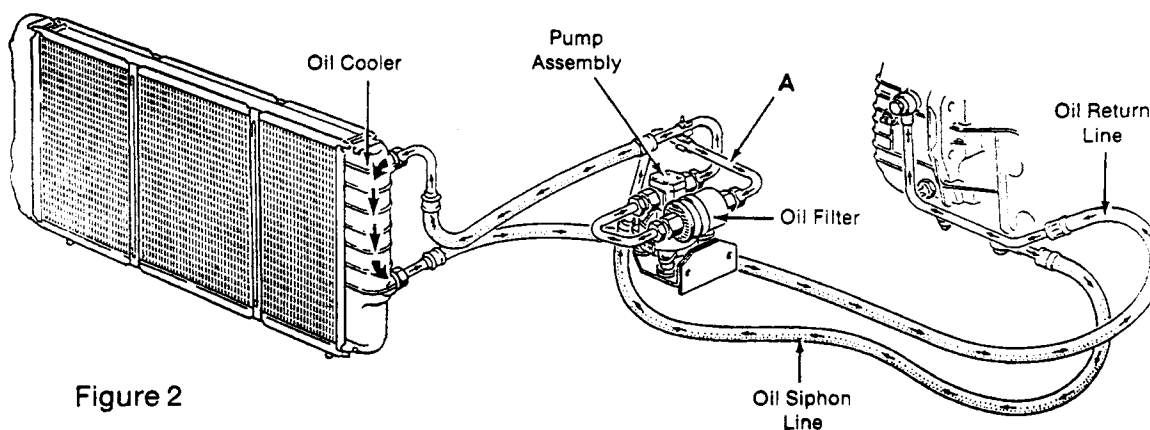

Figure 2
4. The oil travels from the pump to an oil cooler incorporated into the radiator and returns to the final drive case. (See Figure 2.)